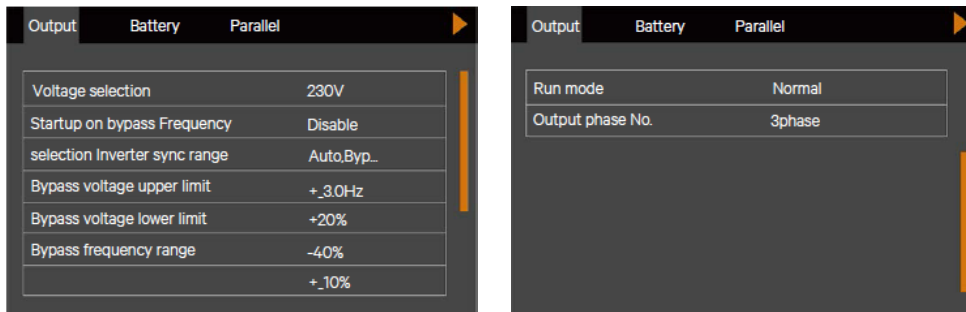

Figure 2-5 Output interface screen
2. As shown in Figure 2-5, the demonstration of the clearance between the rear panel of the cabinet and the wall is 500mm. The clearance should not be less than 200mm, it needs to be considered according to the actual situation for the sake of maintenance convenience.
b) Press the  or  key to select and set corresponding parameters (taking 'Output' as an example). As shown in Figure 2-5.